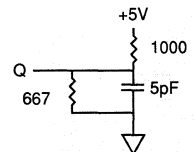

Fig. 2 OUTPUT LOAD EQUIVALENT
6. ^tHZCS, ^tHZOE, and ^tHZWE are specified with C_L = 5pF as in Fig. 2. Transition is measured ±500mV from steady state voltage.